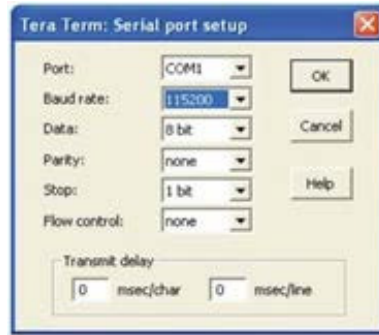

Figure 4-6: Serial Port Setup
3. Click **Setup** to expand the drop-down menu, Figure 4-5 and select **Serial port**. The Serial Port Setup window, Figure 4-6, displays. In this window, you can make changes to the serial port setup.
4. Configure the terminal program for the correct COM port, Figure 4-6.